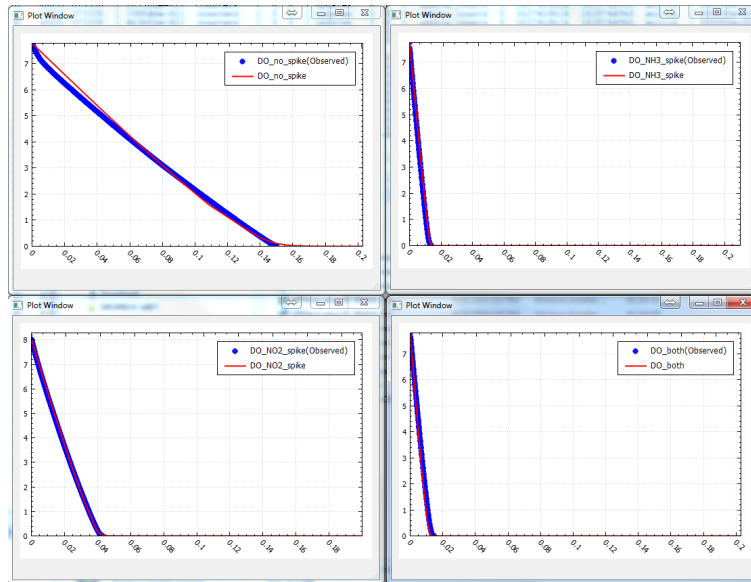

Figure 7: Observed and predicted DO variation in all four experiments
14. **Checking the model vs. observed agreement:** Right-click on **Project Explorer**→**Inverse Modeling**→**Observations**→*DO_nospike* and the choose **Plot modeled data**. A graph will appear that will show observed data and the model prediction based on the estimated parameters. Do the same for other observation data (Figure 7).